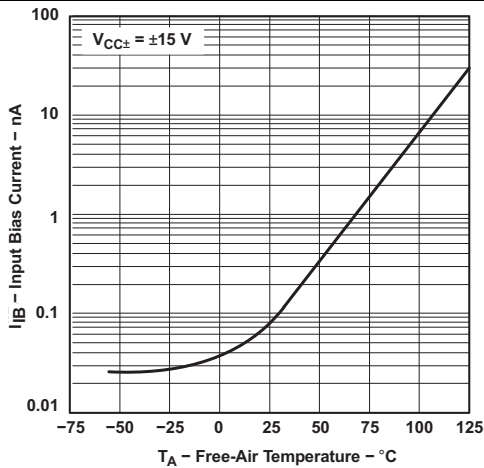

Figure 1. Input Bias Current vs Free-Air Temperature
(1) All characteristics are measured under open-loop conditions with zero common-mode voltage, unless otherwise specified.
(3) Input bias currents of an FET-input operational amplifier are normal junction reverse currents, which are temperature sensitive, as shown in Figure 1. Pulse techniques must be used that maintain the junction temperature as close to the ambient temperature as possible.
- (1) Input bias currents of an FET-input operational amplifier are normal junction reverse currents, which are temperature sensitive, as shown in Figure 1. Pulse techniques that maintain the junction temperature as close to the ambient temperature as possible must be used.
- (2) All characteristics are measured under open-loop conditions with zero common-mode voltage, unless otherwise specified. Full range is $T_A = -55^\circ\text{C}$ to $+125^\circ\text{C}$.
- (2) All characteristics are measured under open-loop conditions with zero common-mode voltage, unless otherwise specified. Full range is $T_A = -55^\circ\text{C to } +125^\circ\text{C}$.